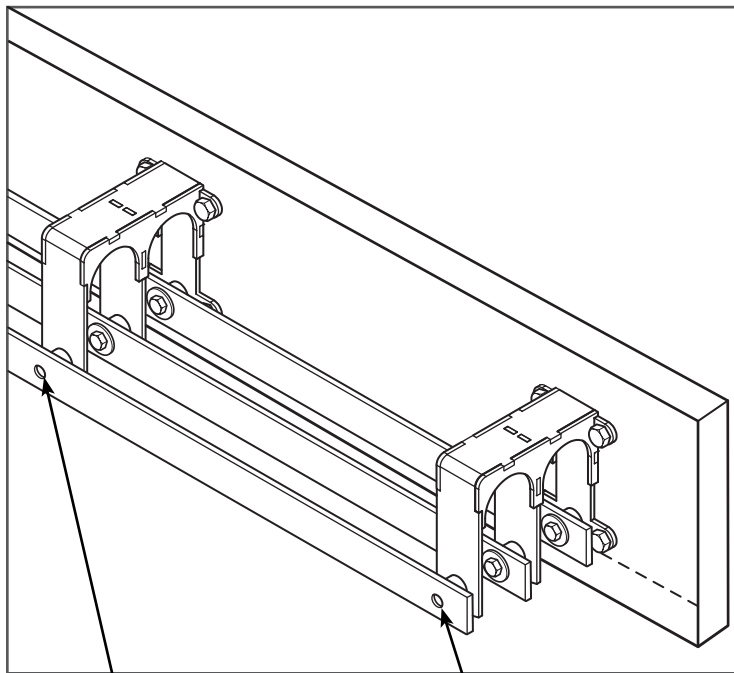

Figure 10
11. Beginning with the track closest to the wall, install each track completely before moving on to the next track (Figure 10).